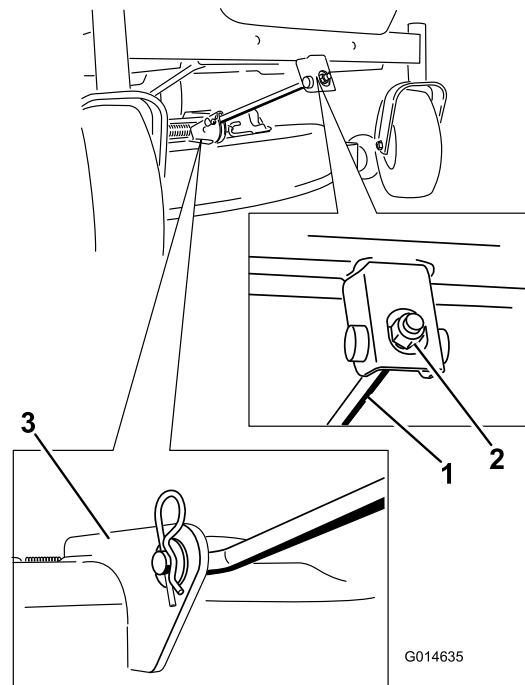

Figure 67
4. Remove the hairpin cotter from the front support rod, and remove the rod from the deck bracket (Figure 67).
- Attach the front support rod to the mower deck with the clevis pin and hairpin cotter (Figure 67).